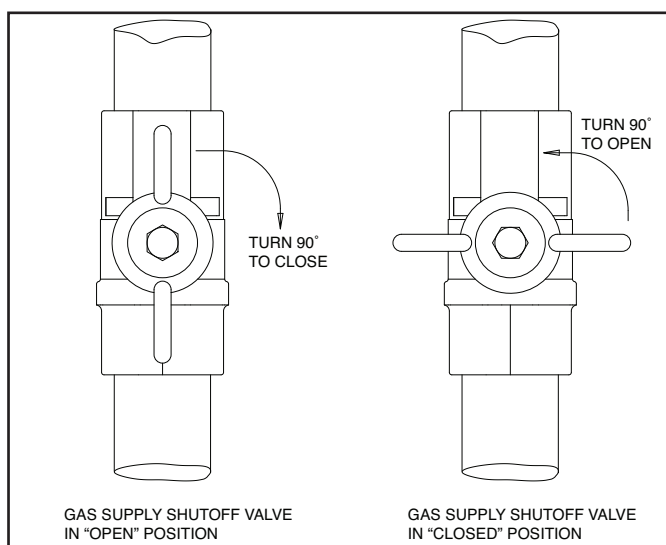

Figure 8.
- Open the gas supply shut off valve, by turning the handle to be parallel to the gas piping. (See Figure 8).
- Wait five (5) minutes (longer for propane) to clear out any gas, then smell for gas, including near the floor. If you then smell gas, STOP! Follow "B" in the safety information above on this page. If you don't smell gas, go to next step.
- Close the gas supply shut off valve, by turning the handle to be perpendicular to the gas piping. (See Figure 8).